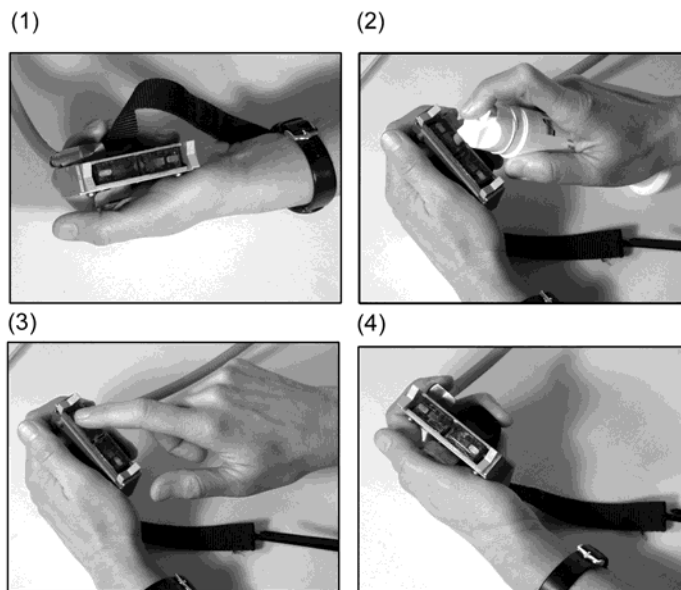

Fig. 7.2: Applying the coupling compound
- Apply a thin film of acoustic coupling compound on the contact surfaces of the transducer heads (see Fig. 7.2).